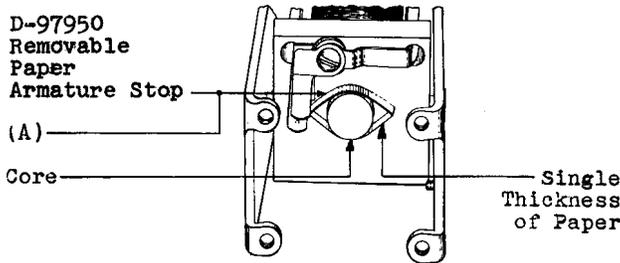

Fig. 3 — Armature Stop Position (Armature Removed From Relay)
2.05 Application of D-97950 Removable Armature Stop: Fig. 3(A) — The D-97950 armature stop, when applied as authorized in